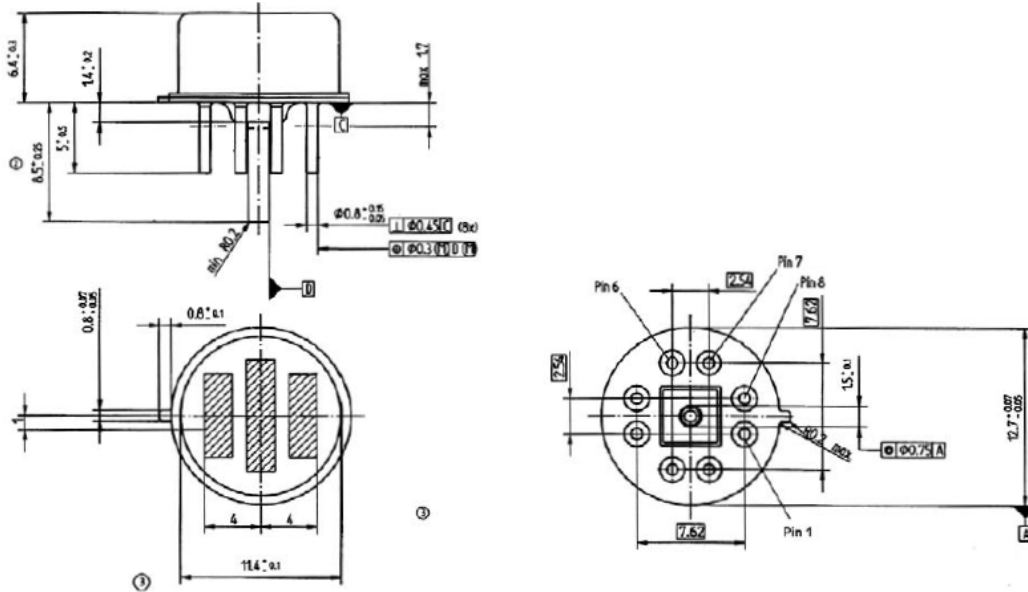
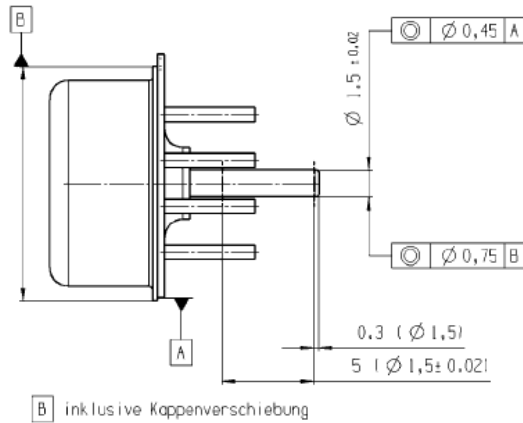

Figure 7: Package dimensions (all in mm), type writing is in the hatched area
Figure 8: Pressure supply pipe with tolerance data (all in mm)
- f) It is recommended to keep the distance between the TO-8-bottom plate and the PCB at approximately 1.8 ... 2.0mm (see figure 7 and figure 8), which is the thickness of the square metal part at the bottom plate. This part is holding the pressure pipe. This mounting condition prevents possible shortcuts between the electrical connections (TO-8 housing is connected to GND).